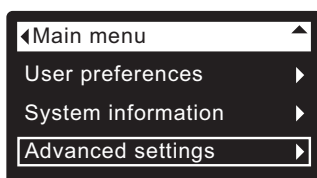

FIG. 83
1. From any of the rolling status screens, press the SELECT (O) button to display the **Main menu**.
2. Press the DOWN (▼) button to scroll through the menu options until **Advanced settings** is highlighted (See Figure 83).